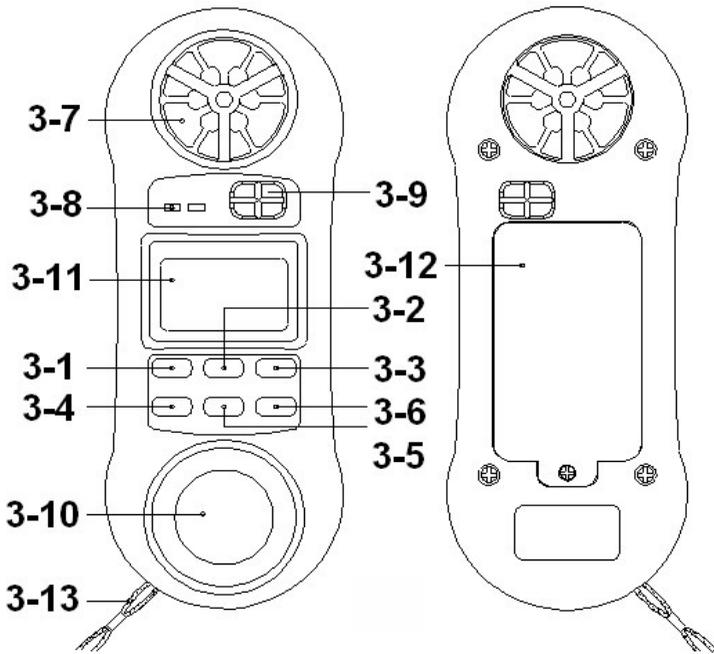

Fig. 1
- 1) Power on the instrument by pressing the " Power Button " ( 3-1, Fig. 1 ).
- 2) Select the Anemometer function by pressing " Function Button " ( 3-6, Fig. 1 ).
- 3) Press the " Unit/Zero Button " ( 3-4, Fig. 1 ) to select unit that you want and then face the " Air Flow Sensor " ( 3-7, Fig. 1 ) to the source of wind.
- 1) Power on the instrument by pressing the " Power Button " ( 3-1, Fig. 1 )..
- 2) Plug a type K thermocouple probe in the " Thermocouple Input Socket " ( 3-8, Fig. 1 ).
- 3) Select the Temperature function by pressing " Function Button " ( 3-6, Fig. 1 )
- 1) Power on the instrument by pressing the " Power Button " (3-1, Fig. 1).
- 2) Select the Relative Humidity function by pressing "Function Button " ( 3-6, Fig. 1 ).
- 2) Select the Light Measurement function by pressing the " Function Button " ( 3-6, Fig. 1 ) until the light value is displayed. The light display digits are oriented 180° from the other function displays for easy exposure and output reading of the light sensor.
- 3) Press the " Lux/Ft-cd Button " ( 3-5, Fig. 1 ) to select measuring unit " Lux " or " Ft-cd " .
- \* For best results zero the light sensor prior to use in a dark environment. Placing the light sensor end of the meter under a desktop or flat surface so as to block any light can accomplish this. Then press the "Unit/Zero Button" ( 3-4, fig. 1 ) to set the meter indication to zero.
Whenever press the "Hold Button (3-2, Fig. 1)" will freeze the current reading value with a "HOLD" symbol on the display.
- 1) The Data Record function records & displays the maximum and minimum reading values. Start the Data Record function by pressing the " Max./Min. Button " ( 3-3, Fig. 1 ) once. There will be a " REC " symbol on the display.
- (a) Press the " Max./Min. Button " ( 3-3, Fig. 1 ) once and the " Max " symbol along with the maximum value will appear on the display.
- (d) Clear the Max./Min. value recorded by pressing the " Hold Button " ( 3-2, Fig. 1 ) once. Previous recorded Max./Min. value will be given up and then revert to the REC. function keep on recording.
- 2) Open the " Battery Compartment / Cover " ( 3-12, Fig. 1 ) and remove the battery.